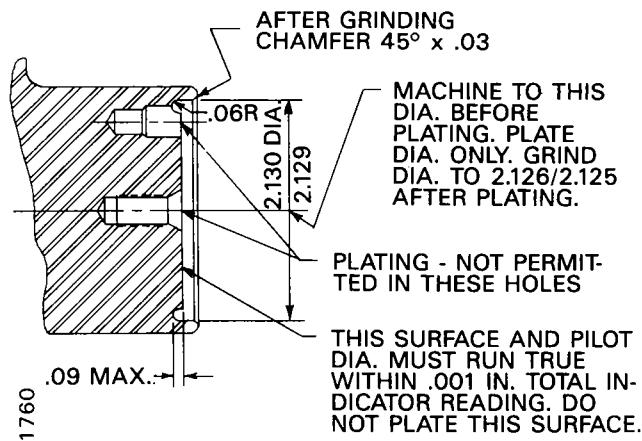

Figure 7-12A. Details for Repairing Pilot Diameter of Crankshaft
- After removing the dowel, machine the pilot diameter in the end of the crankshaft to 2.129/2.130 inch as shown in the illustration. See Figure 7-12A. Also, cut the .09 deep x .06R undercut as shown.
- Chamfer edge of pilot diameter 45° x .03 as shown in Figure 7-12A.